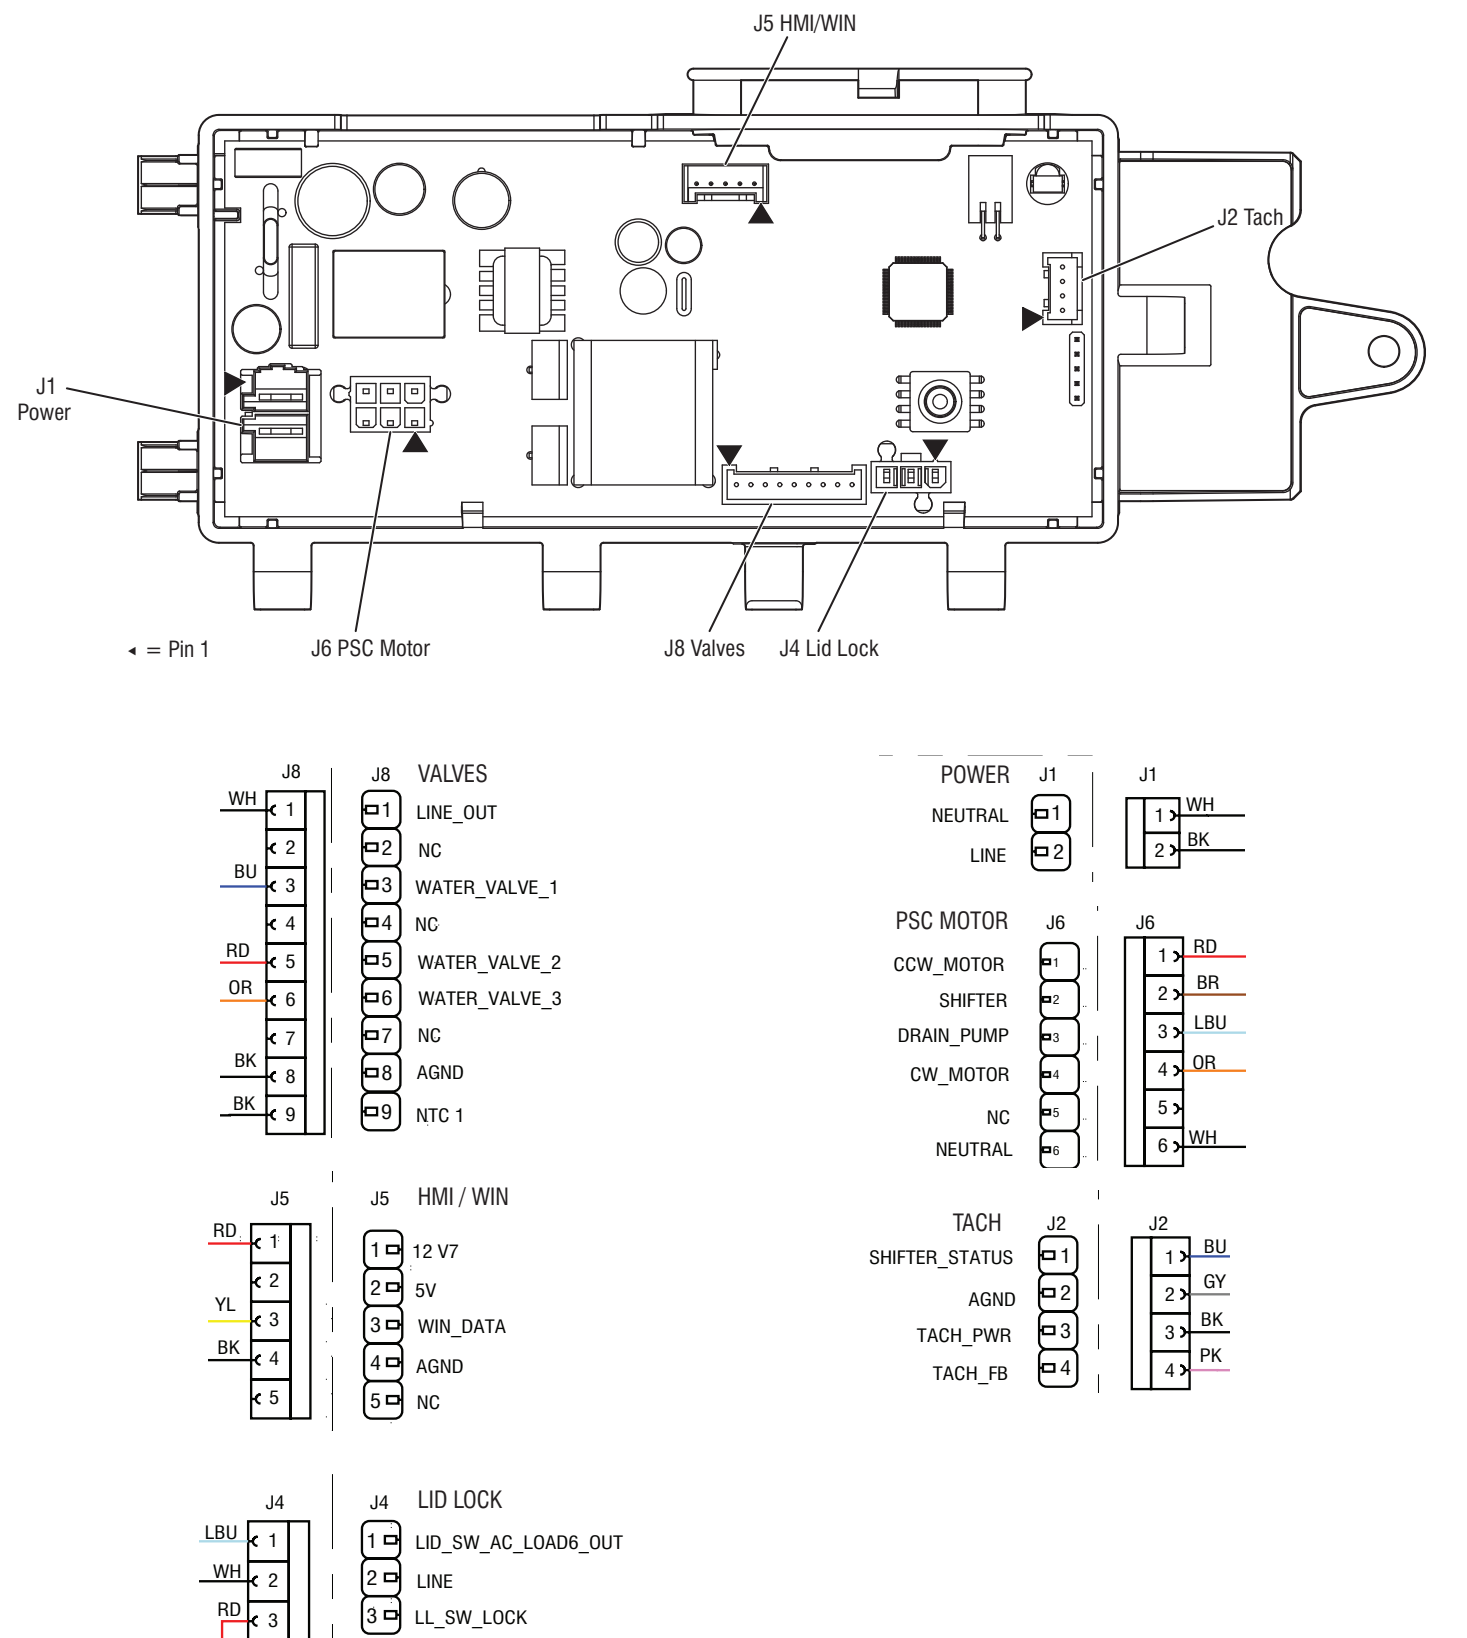

Figure 1 - Main Control (ACU) with Connectors and Pinouts
- If 120 VAC is not present, check the AC power cord for continuity. See Figure 1-Main Control \(ACU\) from section Component Location.
5. Is the "Diagnostic LED" flashing or continuously "ON" or "OFF"? See Figure 1-Diagnostic LED of Maytag® Belt Drive Models.
- c. Remove connector J8 from main control. Refer to Figure 1- Main Control \(ACU\) from section Component Location.